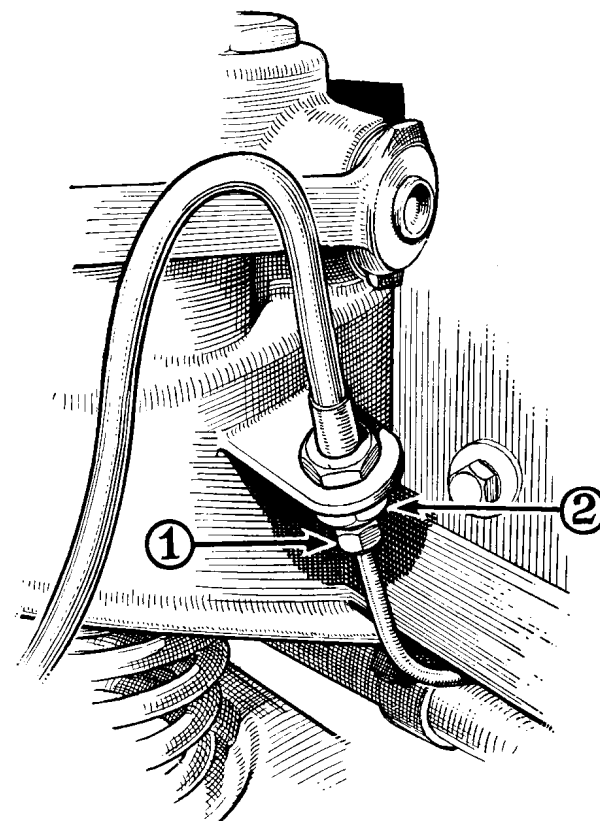

Fig. M.13
Unscrew the metal pipe line union nut (1) (Fig. M.13) from its connection to the hose.